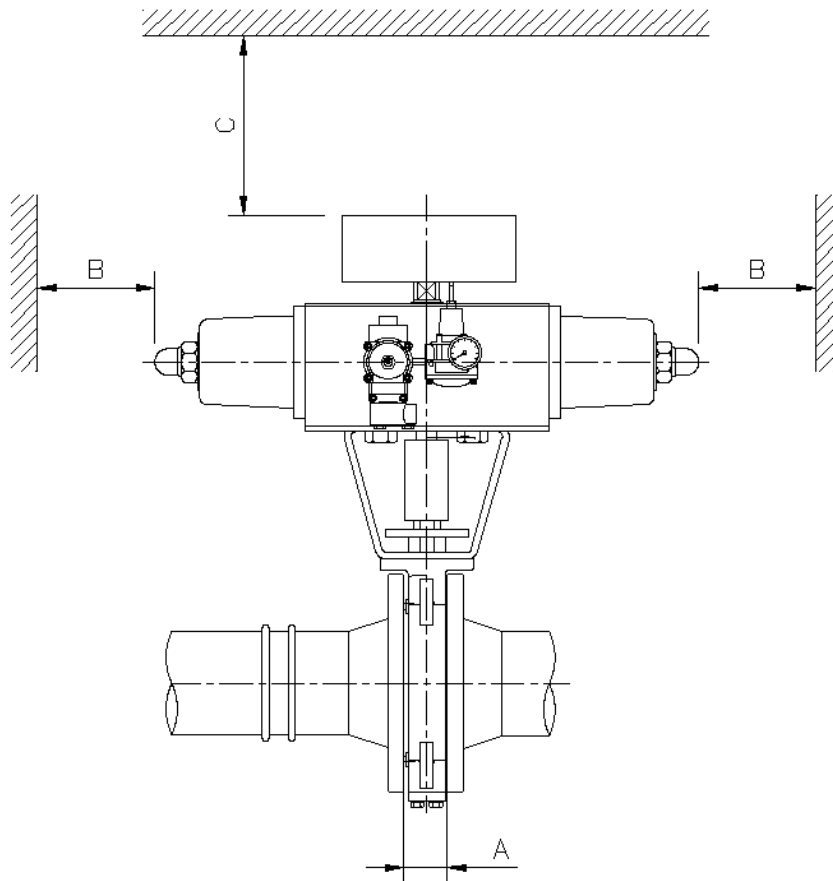

Fig 3.4 Space required for control valve installation
- ⑦ A minimum space is required for maintenance of the valve installation area. (See Fig 3.4). In addition, a space for manual operation is required if a manual hand wheel has been installed.